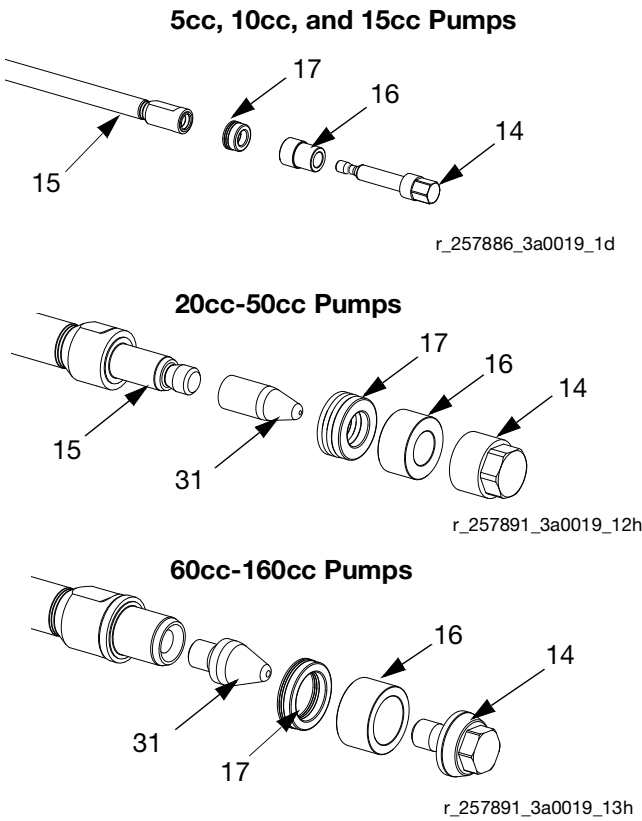
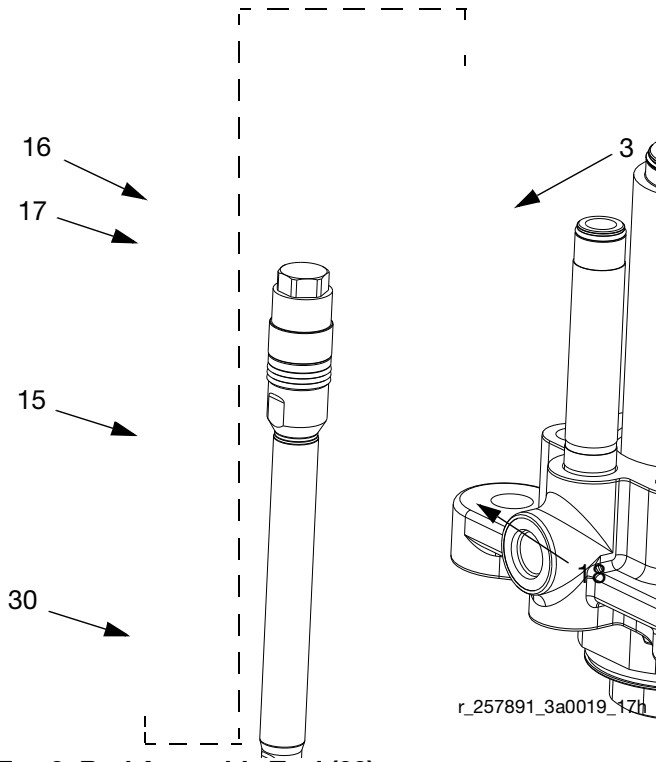

FIG. 1: S1, S3 & S4 Pumps Piston Assembly Tool (31)
FIG. 3: Rod Assembly Tool (30)
To prevent damage to seals always use piston assembly tool (31) and rod installation tool (30) from repair kit when assembling the piston seals and displacement rod. See FIG. 1 and FIG. 3.